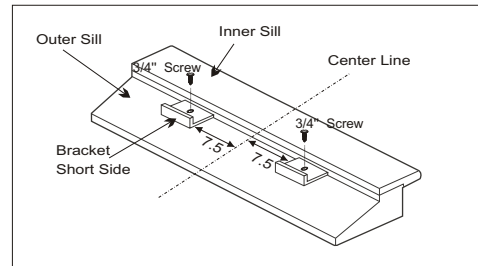

Fig. 5
5. Install the L brackets on the outer sill with the short side of the bracket against the back of the inner sill. Install one L bracket 7.5" to each side of the center line. See Fig. 5.